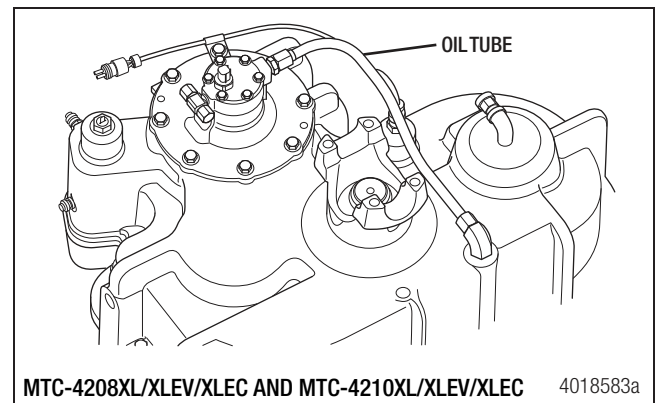

Figure 7.48
2. Install the oil inlet tube to the lower and upper fittings. Tighten the fitting nuts to 35-40 lb-ft (48-54 Nm). Figure 7.48.